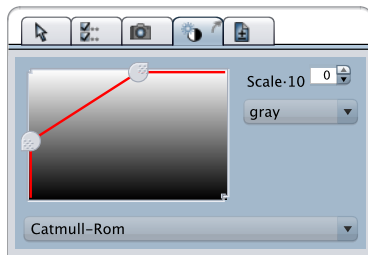
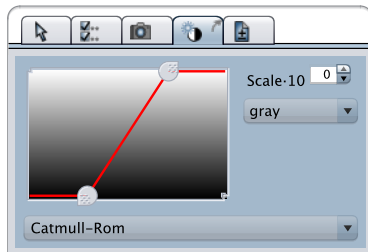

Figure 1.120: Increasing The Brightness
Figure 1.121: Increasing The Contrast
2. To adjust brightness and contrast change the Lookup Table function by dragging it with the mouse. [Figure 1.120 \[145\]](#) shows an example of how to change the function to brighten an image, the function in [Figure 1.121 \[145\]](#) results in a higher image contrast.